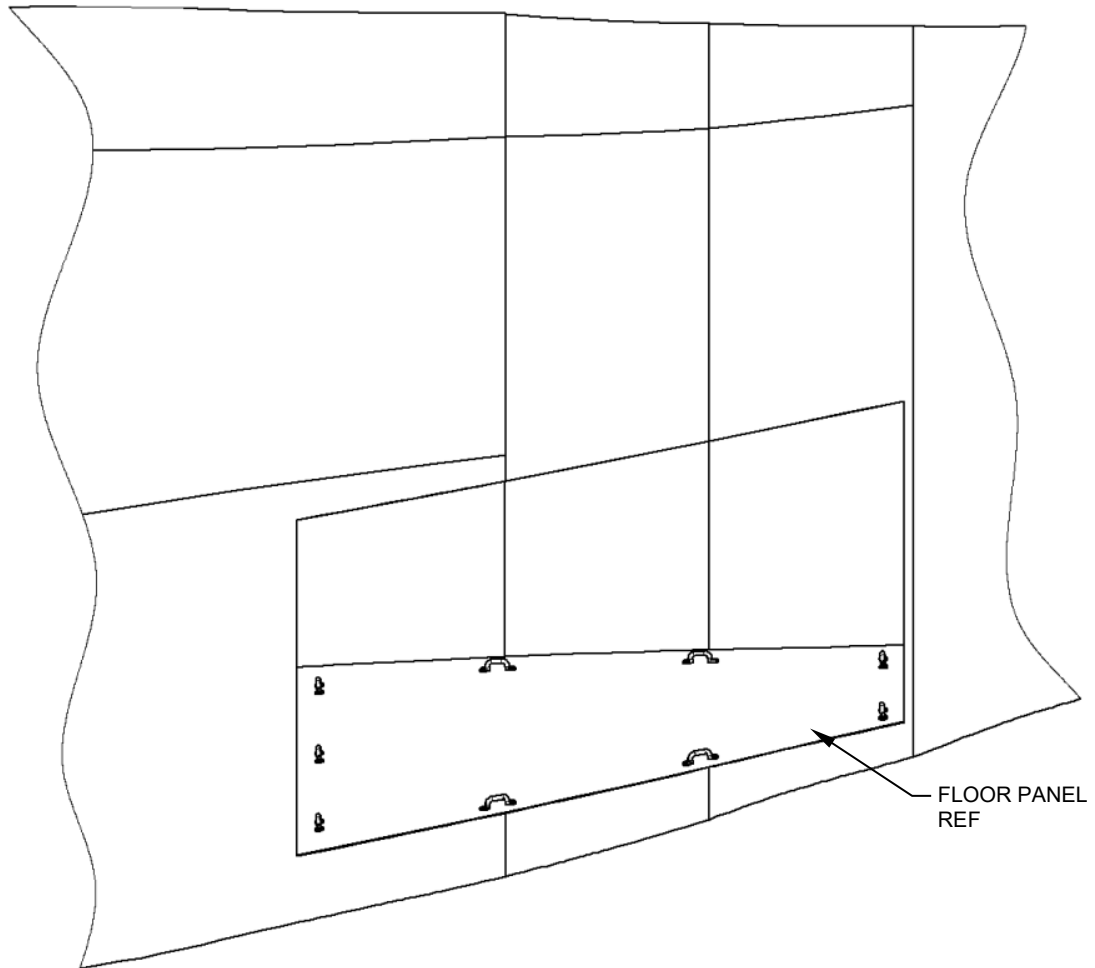

Figure 1
1. Gain access to the baggage compartment floor. Reference Figure 1.
2. Pre-fit the Panel, Assy (Item 1) by lining up the oval cut outs with the footman loops mounted to the floor panel. Reference Figures 1 & 2.